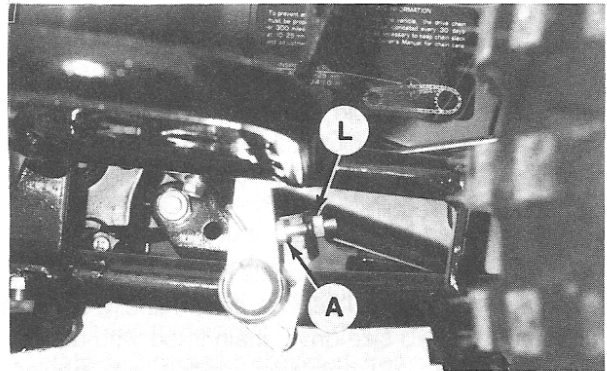
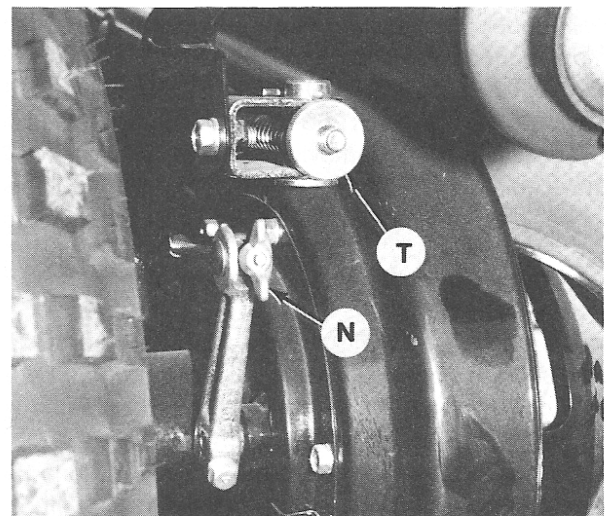

Fig. K7-24—Loosen locknut (L) and turn screw (A) to adjust brake pedal height.
Fig. K7-25—Rear brake pedal free travel is adjusted by rotating nut (N) while drive chain tension is adjusted by rotating nut (T).
INSPECTION AND ADJUSTMENT. The brake system should be inspected and adjusted after the first 10 hours or 100 miles of operation and then after every 10 days or 100 miles of operation. Before adjusting rear brake pedal free travel, check brake pedal height. Brake pedal pad should be positioned 25 mm (1 in.) below right footpeg and is adjusted by loosening locknut (L—Fig. K7-24) and turning adjuster (A). Actuate rear brake pedal and measure free travel at end of pedal. Free travel should be 50 mm (2 in.) and is adjusted by rotating adjuster (N—Fig. K7-25) at rear brake.
INSPECTION AND ADJUSTMENT. The final drive chain should be inspected and adjusted after every 90 days or 900 miles of operation. Improper maintenance and neglect can cause early failure of both drive chain and sprockets. Drive chain free play should be 10-25 mm (0.4-1.0 in.) measured midway between sprockets. Drive chain condition and free play may be checked through inspection hole in chain cover. Chain tension is adjusted by rotating tension adjuster (T—Fig. K7-25) at rear of vehicle. Refer to LUBRICATION section for drive chain lubrication requirements.
R&R AND OVERHAUL. On all models, pull tire, wheel and hub assemblies from axle. Remove the rear rack, if equipped, rear fender, exhaust pipe, muffler and bottom chain case guard. Remove front and rear chain covers. Remove the two cap screws securing chain tension adjustment rod and nut to frame. Unbolt and remove tensioner lever support bracket. Scribe an alignment mark on tensioner lever and tensioner shaft to aid in reassembly. Remove tensioner lever pinch bolt and pull tensioner lever from tensioner shaft. Withdraw the adjustment rod and lever as an assembly. Remove rear brake adjuster nut (N—Fig. K7-25) and brake rod clevis pin. Withdraw the brake rod being careful not to lose spring, washer and pin. Remove the outer chain case to inner chain case brackets at rear axle. Carefully withdraw the outer chain case.